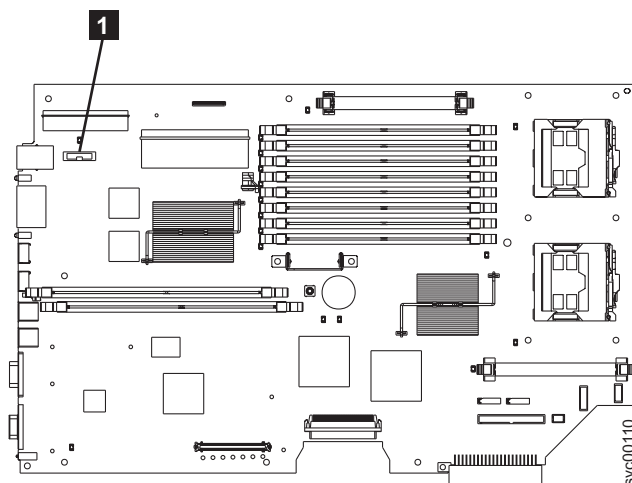

Figure 146. Location of the CMOS battery on the SAN Volume Controller 2145-8F2 or the SAN Volume Controller 2145-8F4
1. Insert the new battery in the battery socket. Figure 146 shows the location (1) of the battery socket.